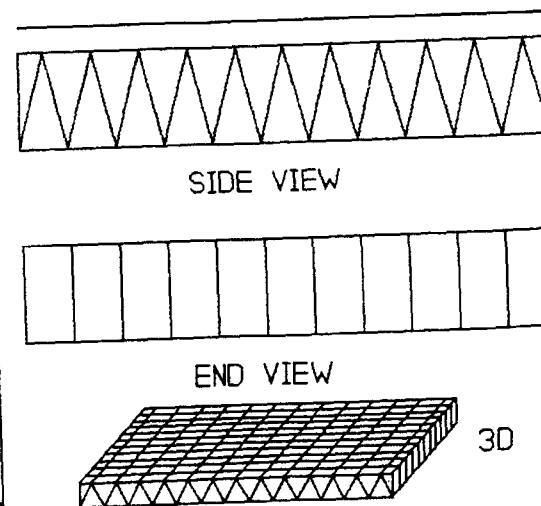

FIGURE 12-24: Foam wedge cutting pattern.
**BUILDING A HOT-WIRE BOW.** Cut the wedges which form the sound absorbers in an anechoic chamber from sheets of polyfoam. This is a yellow/white soft foam often used for mattresses. You can cut small wedges with a sharp serrated knife, but an electric steak knife works better. Figure 12-24 shows suitable cutting patterns.